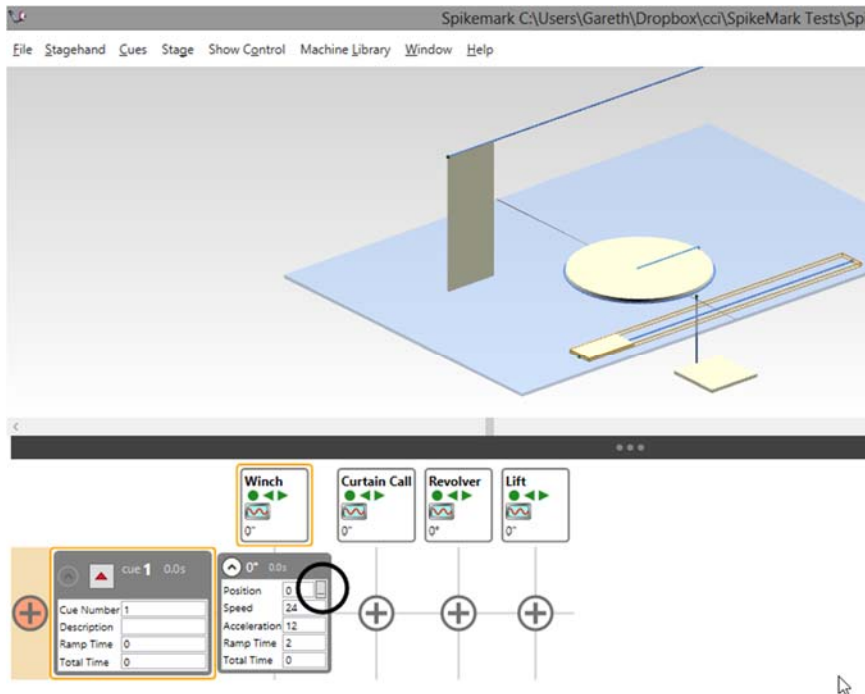

Figure 296
- Click on the **Spike Position** button in the motor's movement window (Figure 296).